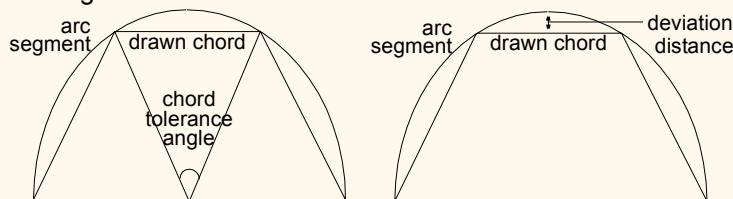

Figure 70. Chord Tolerance Mode
- 0 Sets the chord tolerance mode to *chord angle*, which specifies, in degrees, the maximum angle created when lines from each end of the chord intersect the center point of the circle. When chord tolerance is specified as a chord angle, a circle or arc will have the same number of chords, regardless of its size. See the left-hand side of *Figure 70*.
- 1 Sets the chord tolerance mode to *deviation distance*, which specifies, in current units, the maximum distance between the chord and the arc segment it represents. When you specify a deviation distance, the number of chords in a circle will vary with its size. See the right-hand side of *Figure 70*.